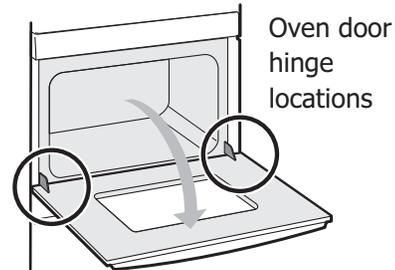

Figure 10: Door hinge location
1. Open oven door completely horizontal with floor (See Figure 10).
3. Fully open the oven door, horizontal with floor See Figure 10).